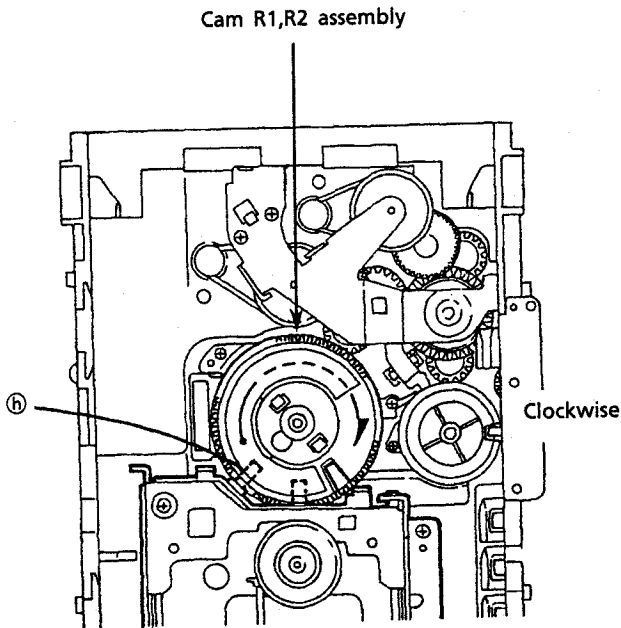

Fig. 29
1. If CD mech. is removed without disassembling CD mech. ass'y, rotate the Cam R1, R2 ass'y clockwise to set the CD mech. ass'y's shaft(L) as shown in Fig. 29.